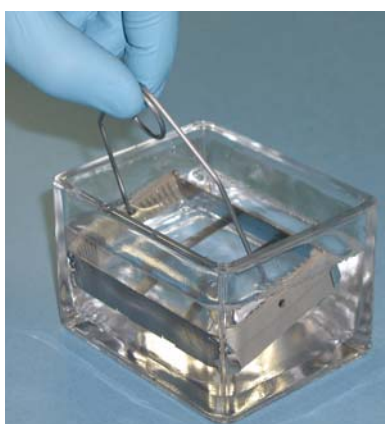

Figure 125 Wash Rack in Wash Dish Containing WB1
1. Attach the wire handle to the rack and submerge the wash rack in the wash dish containing 200 ml WB1 (Figure 125).